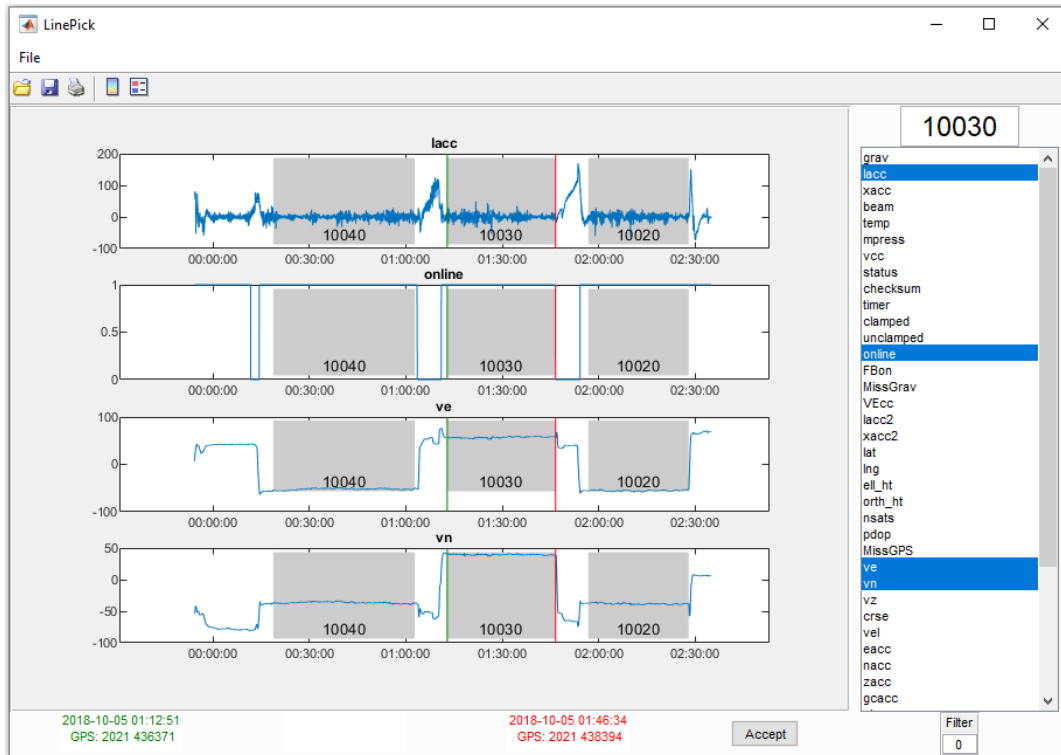

Figure 8-3 Example View/Edit Line 10030
- The middle text box gives the date, time and GPS location of the current cursor position and updates as the cursor moves. Refer to Figure 8-3.